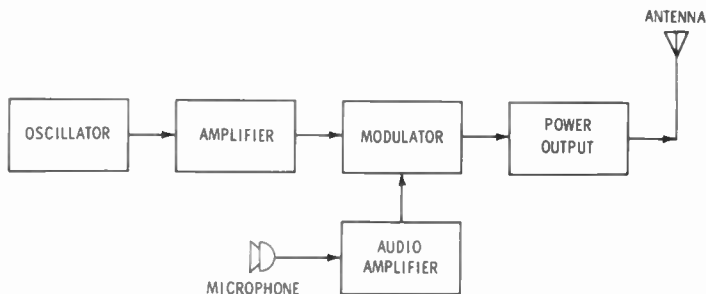
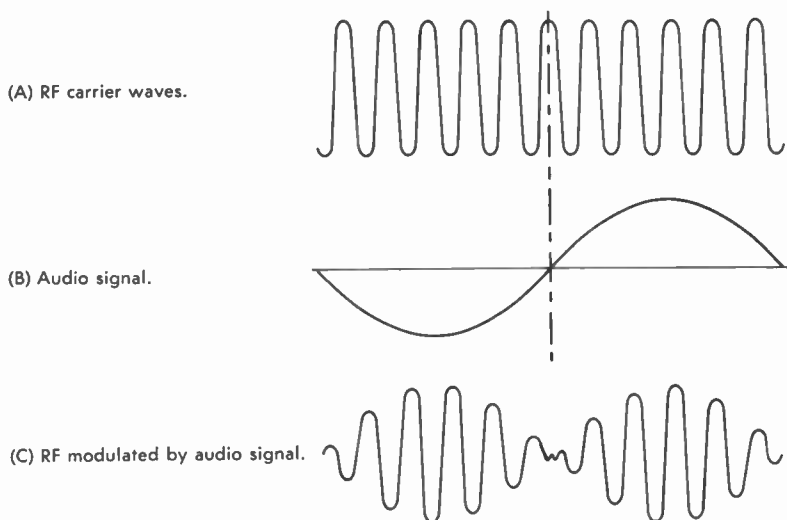

Fig. 2-8. Block diagram of a simplified audio-modulated transmitter.
Fig. 2-9. Diagram showing audio modulation of an RF carrier.
Another advantage of the vacuum tube is the fact that it can be controlled in a very special fashion. If a voice signal from a microphone (Fig. 2-8) is fed into one of the transmitter amplifier tubes, it can control the strength of the output voltage from that tube. This process is called *modulation*, and since it controls the signal level or *amplitude*, it is called *amplitude modulation* (AM).
The amplified oscillator signal from a radio transmitter is called the *carrier*. The signal from the microphone is called the *audio* signal, and this audio signal modulates (changes) the carrier as shown in Fig. 2-9. The amplifier stage where this takes place is called the *modulator* (Fig. 2-8).